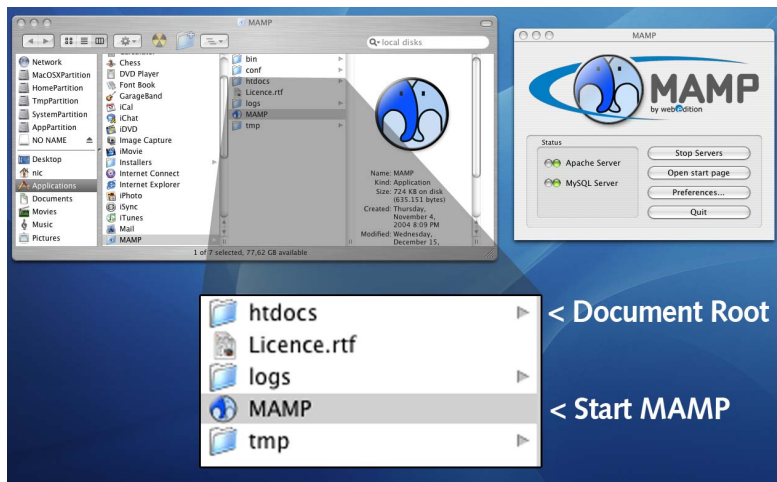

Figure 3.4.: HTDOCS directory of the MAMP server
- OS X: You find the `htdocs` directory in `Applications/MAMP/htdocs/`. See figure 3.4.